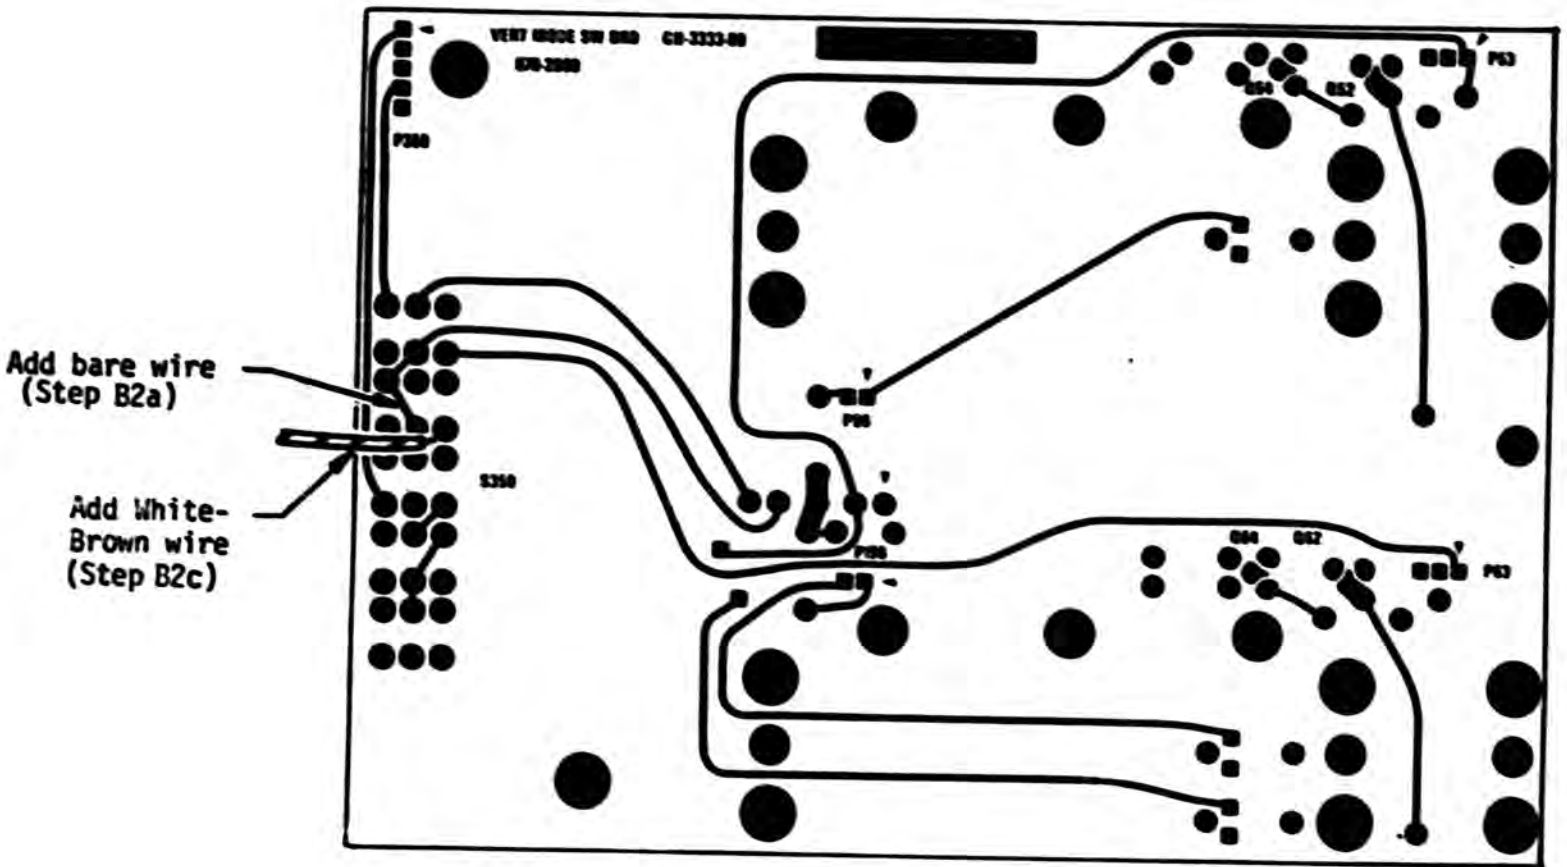

FIG. 2. VERTICAL MODE SWITCHING CIRCUIT BOARD
- () 2. Make the following changes on the Vertical Mode Switching circuit board (See Fig. 2):
- () a. Add a 0.5 inch 26AWG bare wire between the contacts of the ALTERNATE Mode Switch as shown in Fig. 2.
- () c. Solder the white-brown lead of the three-conductor ribbon wire to a contact on the ALTERNATE Mode Switch as shown in Fig. 2.